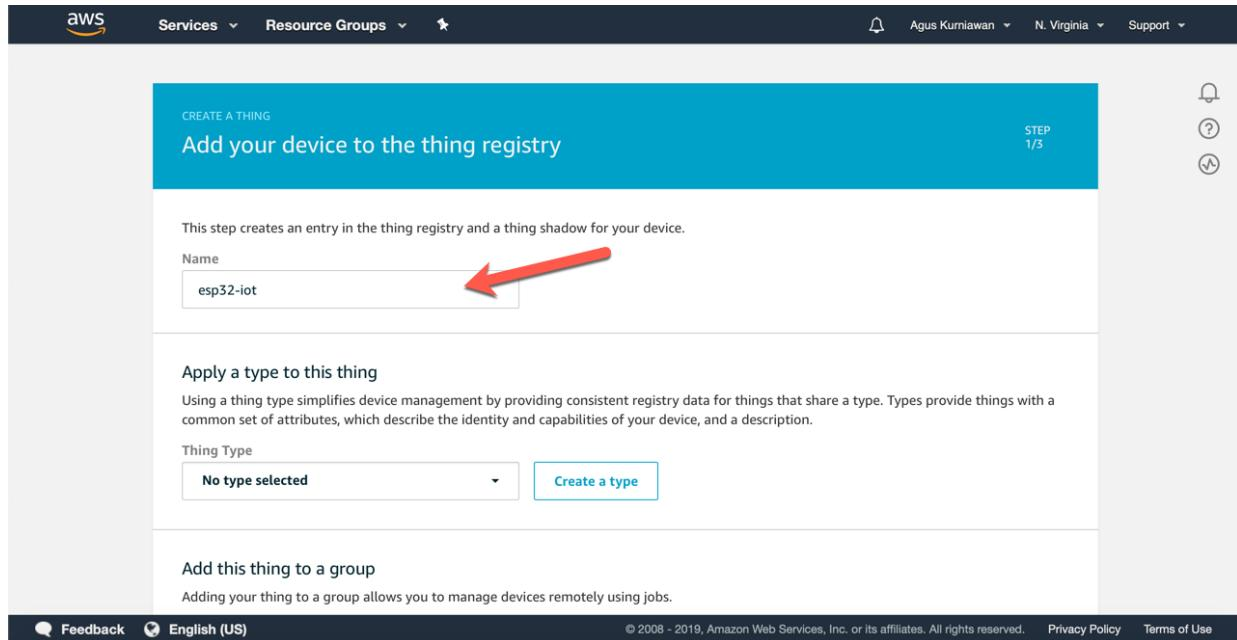

Figure 10.4: Giving your device a name
9. After clicking on the Create a single thing button, you get a web form as shown in *Figure 10.4*.